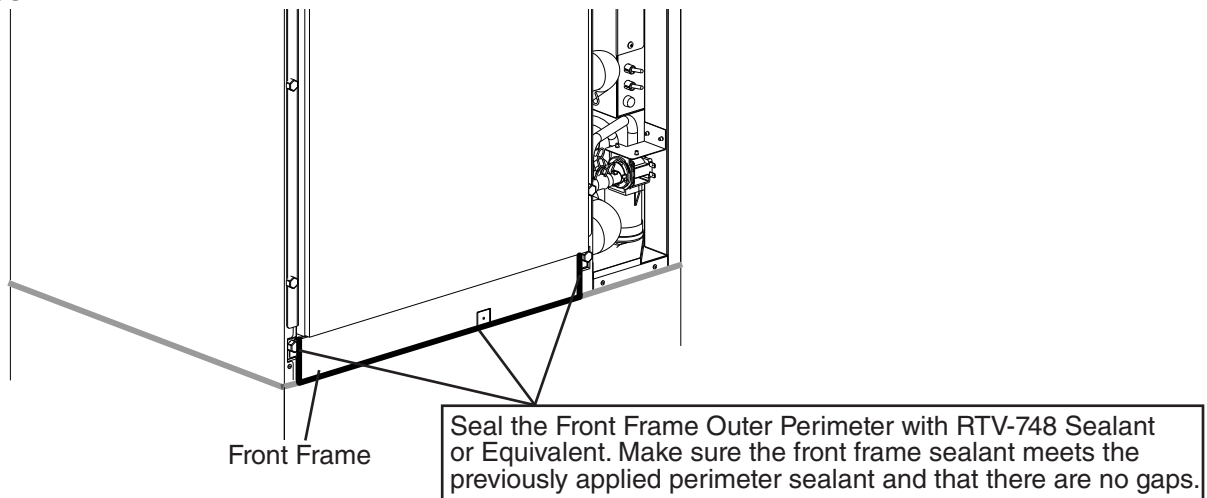

Fig. 19
- 14) Seal the outer perimeter of the front frame to the icemaker and dispenser unit/storage bin with RTV-748 sealant (provided) or equivalent. See Fig. 19. Make sure the front frame sealant meets the previously applied perimeter sealant and that there are no gaps.